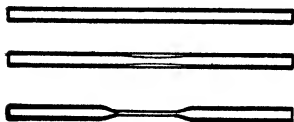

FIG. 1.
**b. Glass Tubing, Drawing Out.** Cut, exactly as in **a**, from a piece of narrow glass tubing a portion 15 cm. long. Hold the center of this piece of tubing in the Bunsen flame, turning it slowly (?), until it becomes soft. Hold and turn it, as a whole, carefully, so as not to bend or twist it. When it is quite soft, remove it from the flame, and draw the two ends slowly apart (Fig. 1). If the result
the Bunsen flame, drawing the two ends apart after removal from the flame (Fig. 1), cutting in the center with the file, and fire-polishing the rough ends. Connect the nozzle by means of a short